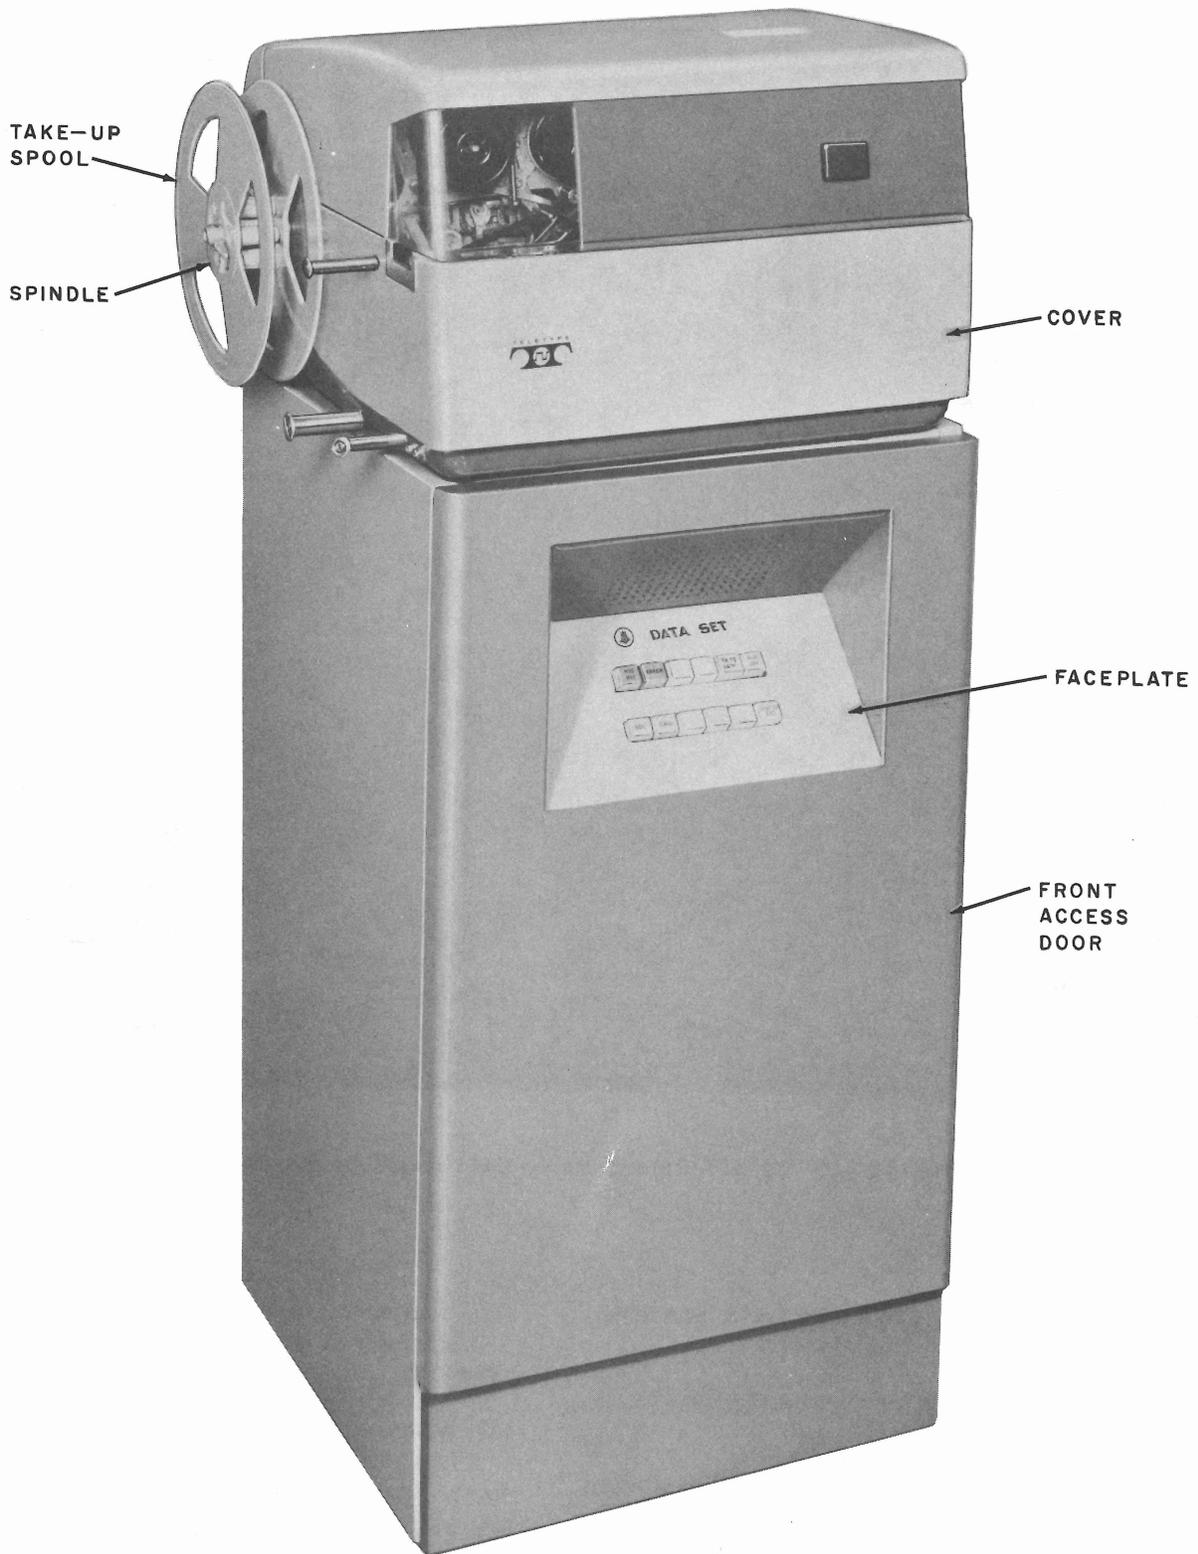
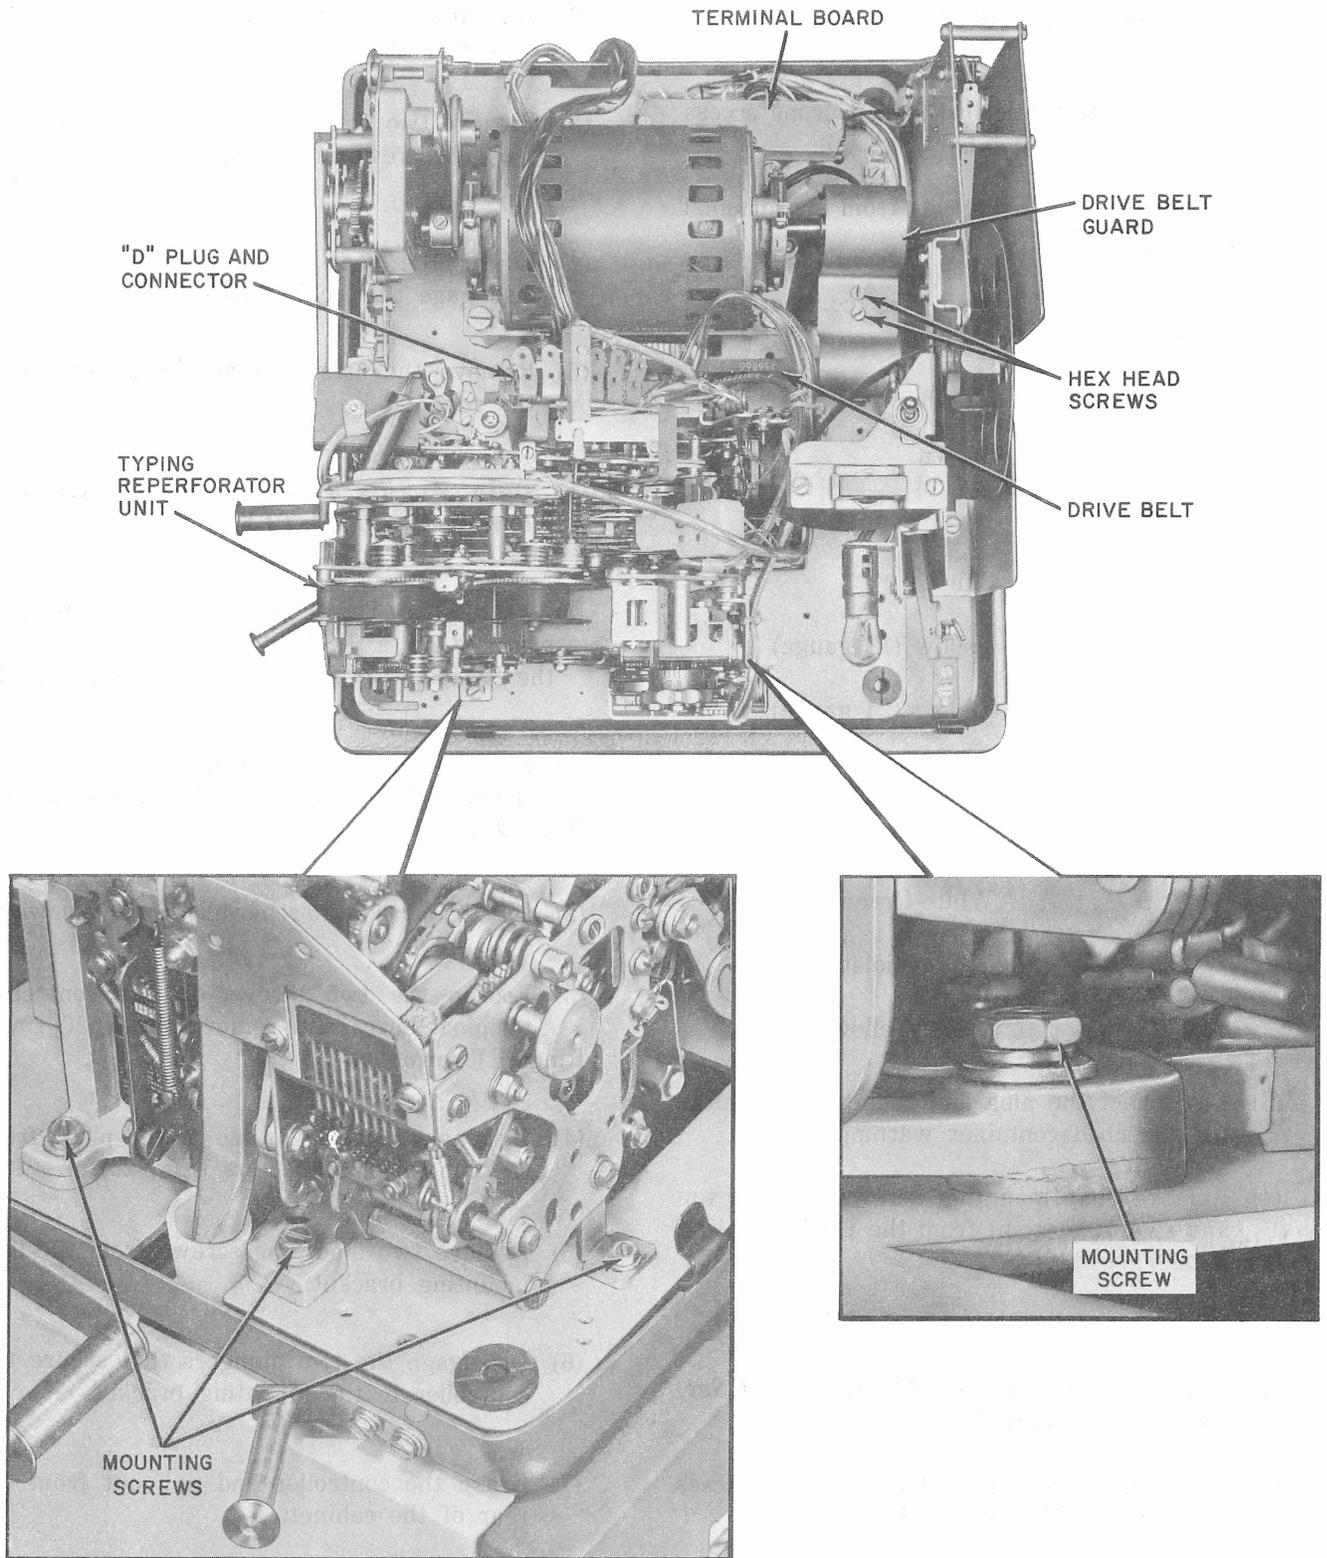

Fig. 16—35 ROTR TTY Data Station
Fig. 17—35 ROTR TTY Data Station—Top View
- (1) Remove the take-up spool and spindle (Fig. 16).
- (2) Remove the cover by lifting vertically to disengage the spring clips.
- (3) Disconnect the D plug from the connector assembly at the rear of the typing reperator (Fig. 17).
- (4) Remove the four screws, washers, and lockwashers that secure the typing reperator to the base casting.
- (5) Disconnect the motor unit drive belt.
- (6) Remove the typing reperator by lifting vertically.
- (1) Open the magnetically latched front access door on the TTY stand (Fig. 16).